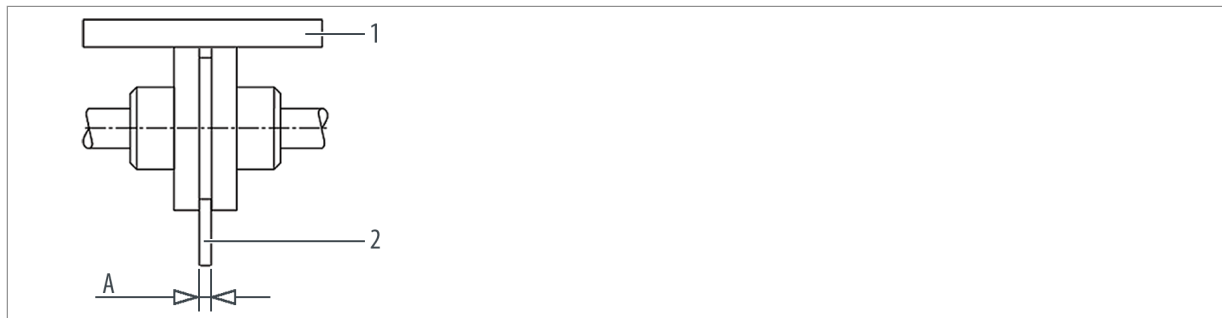

Fig. 19: Checking the coupling alignment
2. ➤ Check the gap to the outer diameter with a straight-edge (no. 1 in Fig. 19):
3. ➤ Check gap dimension with a feeler gauge (no. 2 in Fig. 19):